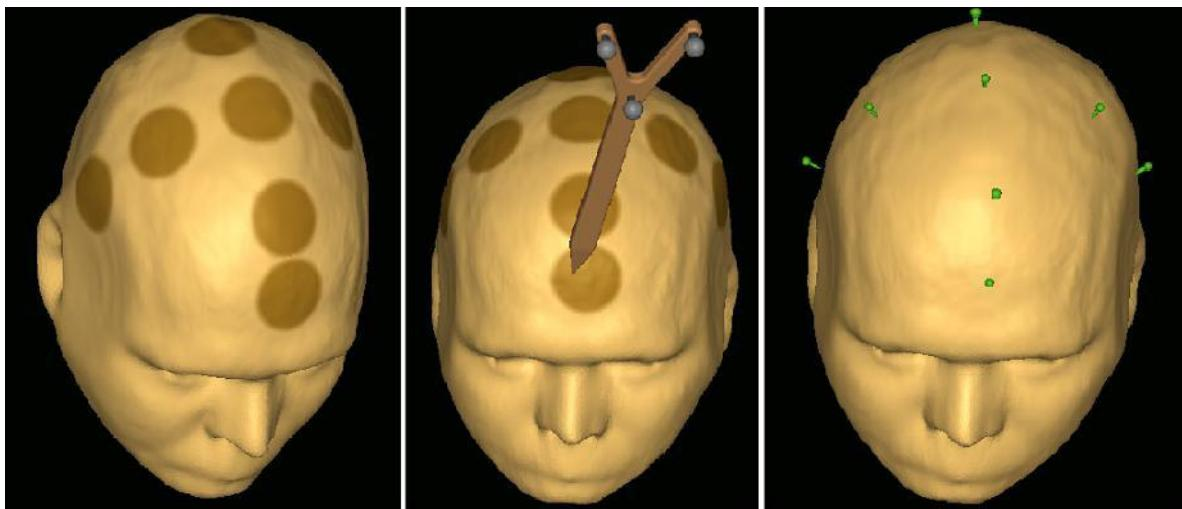

Fig. 76. Advanced registration
4. Check that the scalp point is registered: the brown guiding area has been replaced by a green digitized point symbol at the point of the digitizing pen (see Figure 76).